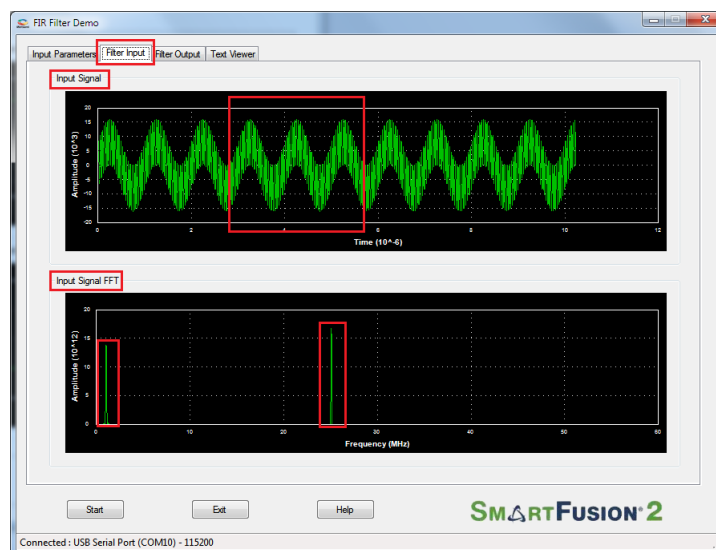

Figure 1-12 • Input Signal and Input Signal FFT Plot
7. Input signal and the frequency spectrum of the specified signal are displayed as shown in Figure 1-12.